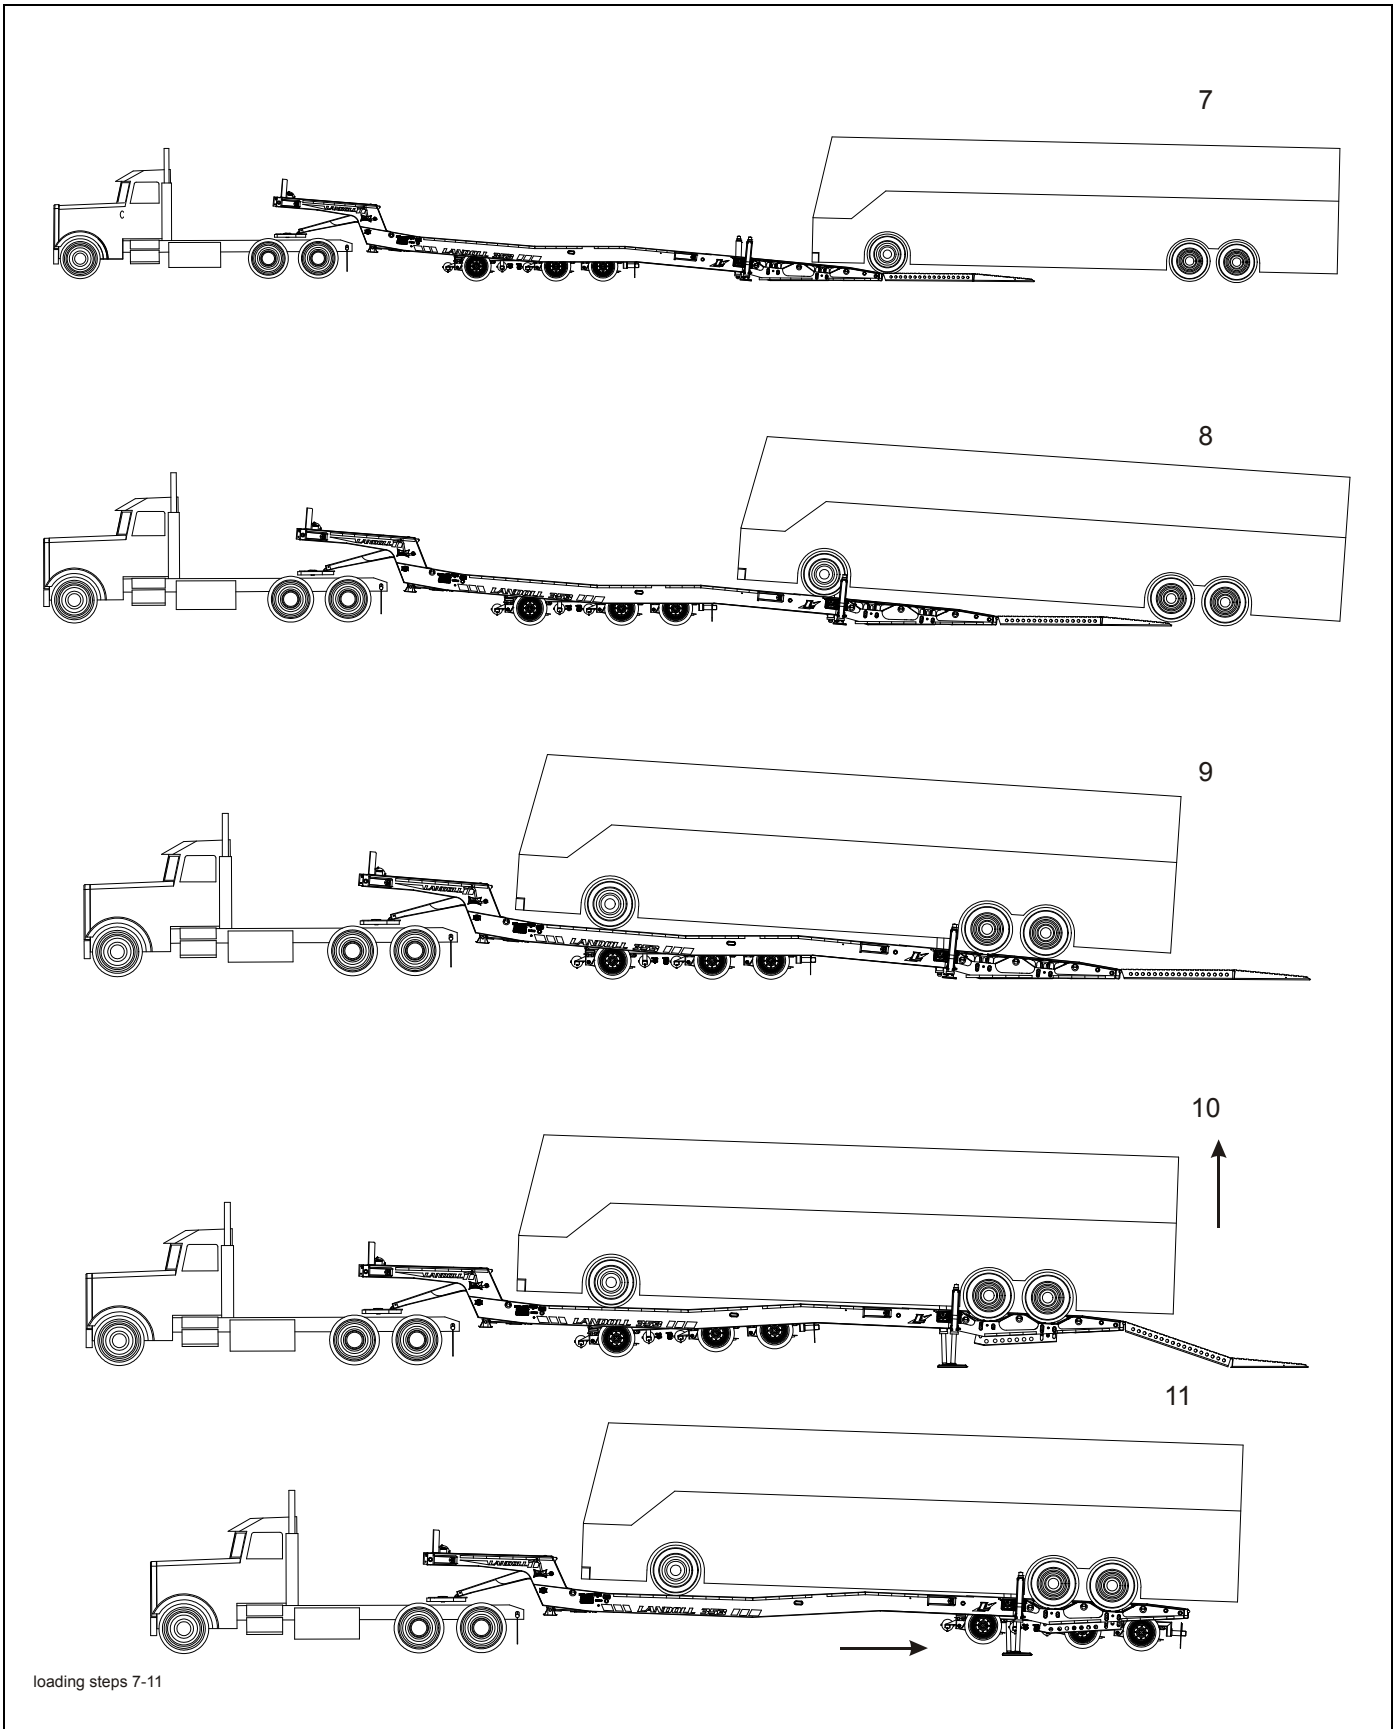

Figure 3-16: Steps for Loading and Unloading
11. Winch or drive the load onto the semitrailer. Insure that the load is steering straight up onto the semitrailer and does not maneuver off the side of the semitrailer. Continue until load center of gravity is just ahead of the axles, if possible. The load should never place more weight on the kingpin than on the rear axles during loading and unloading (See Figure 3-16, steps 7 through 9.)
13. Lift rear of trailer to allow enough clearance to remove ramps. Properly store ramps before transport (See Figure 3-16, step 10.)
14. Continue lifting tail of trailer off the ground fully extending lift leg cylinders. As the tail of the trailer is lifted from the ground, the wells will settle into their pinned height position and the loaded vehicles' tires will come to rest in the valley of the wheel well (See Figure 3-16, step 10.)
15. Move undercarriage to rear of trailer (See Figure 3-16, step 11.)